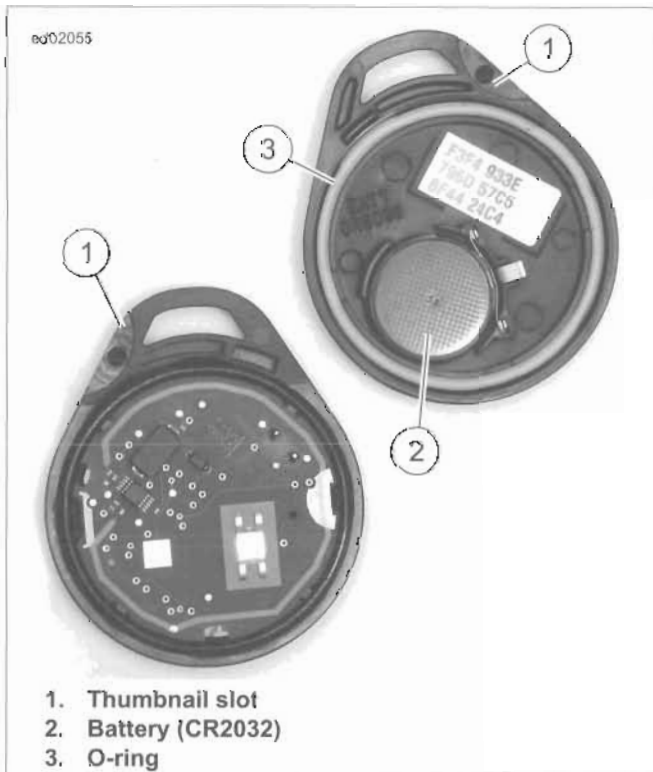

Figure 7-12. Open Fob
- a. See Figure 7-12. Place a thin blade in the thumbnail slot (1) between the two halves of the case.
- a. See Figure 7-12. With O-ring (3) in place, align case halves.